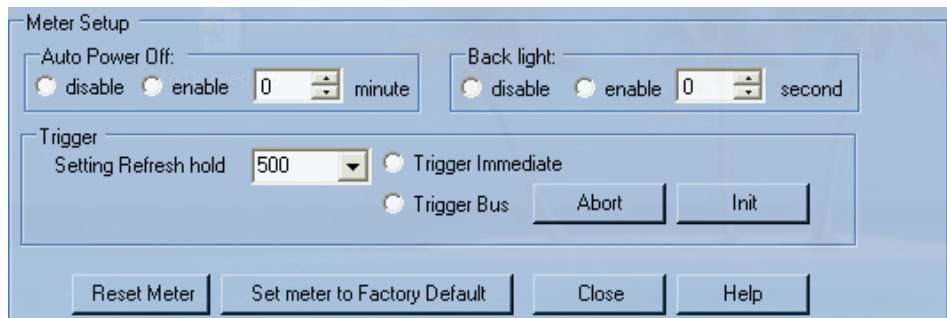

Figure C-5 Meter setup
- ✓ Meter setup (figure C-5) allows users to control the instrument with controlling options—auto power off function, backlight, triggering instrument.